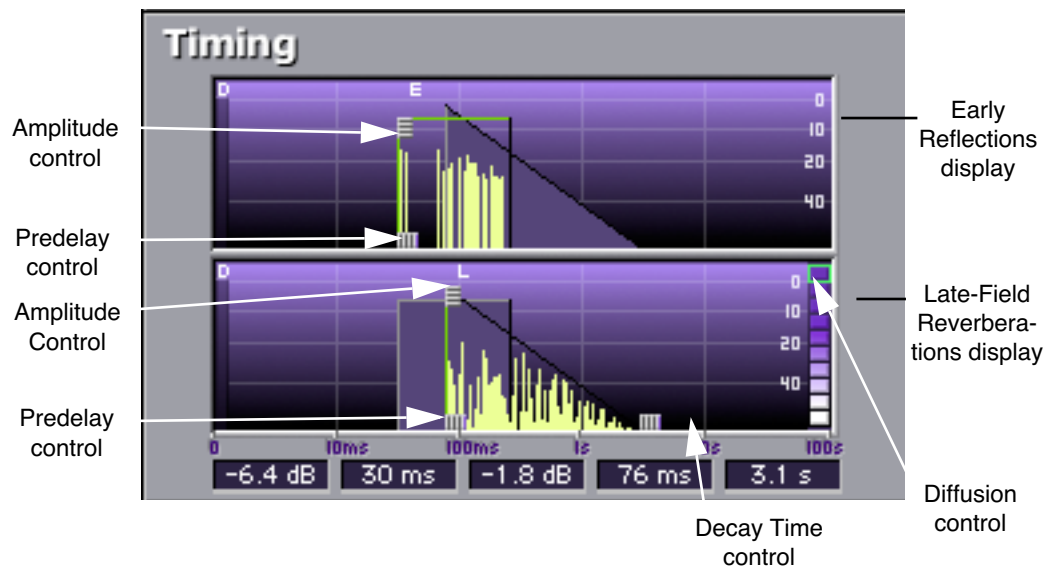

Figure 89. RealVerb Pro Timing panel
The resulting early reflection pattern is displayed at the top of the Timing panel (see Figure 89 on page 259), where each reflection is represented by a yellow vertical line with a height indicating its arrival energy, and a location indicating its arrival time.
**Note:** While materials are used to control decay rates as a function of frequency, the overall decay rate of the late-field reverberation is controlled from the Timing panel (see Figure 89 on page 259).
The Timing panel offers control over the timing and relative energies of the early reflections and late-field reverberations. These elements affect the reverb's perceived clarity and intimacy. The early reflections are displayed at the top of the Timing panel, with controls for Amplitude and Pre-delay. The late-field reverberations are displayed at the bottom, with controls for Amplitude, Pre-delay, and Decay Time. To illustrate the relation between both reverb components, the shape of the other is represented as an outline in both sections of the Timing panel (see Figure 89).